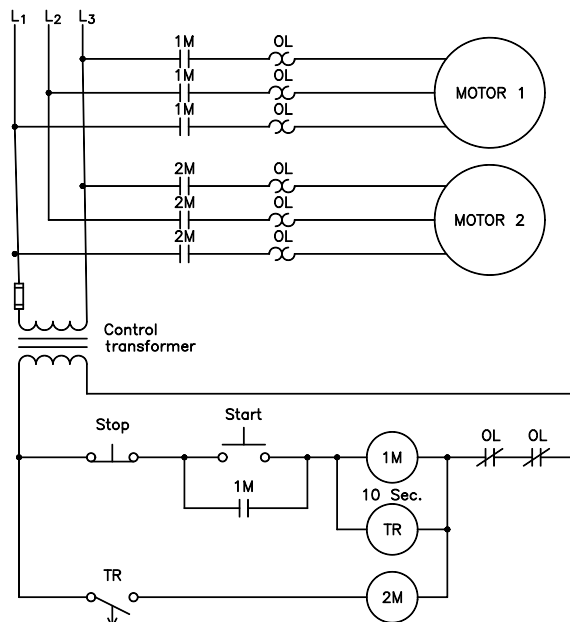
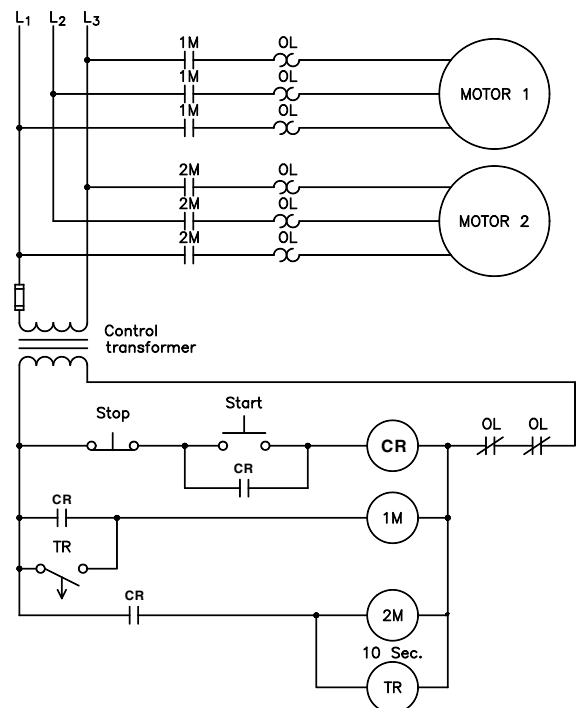
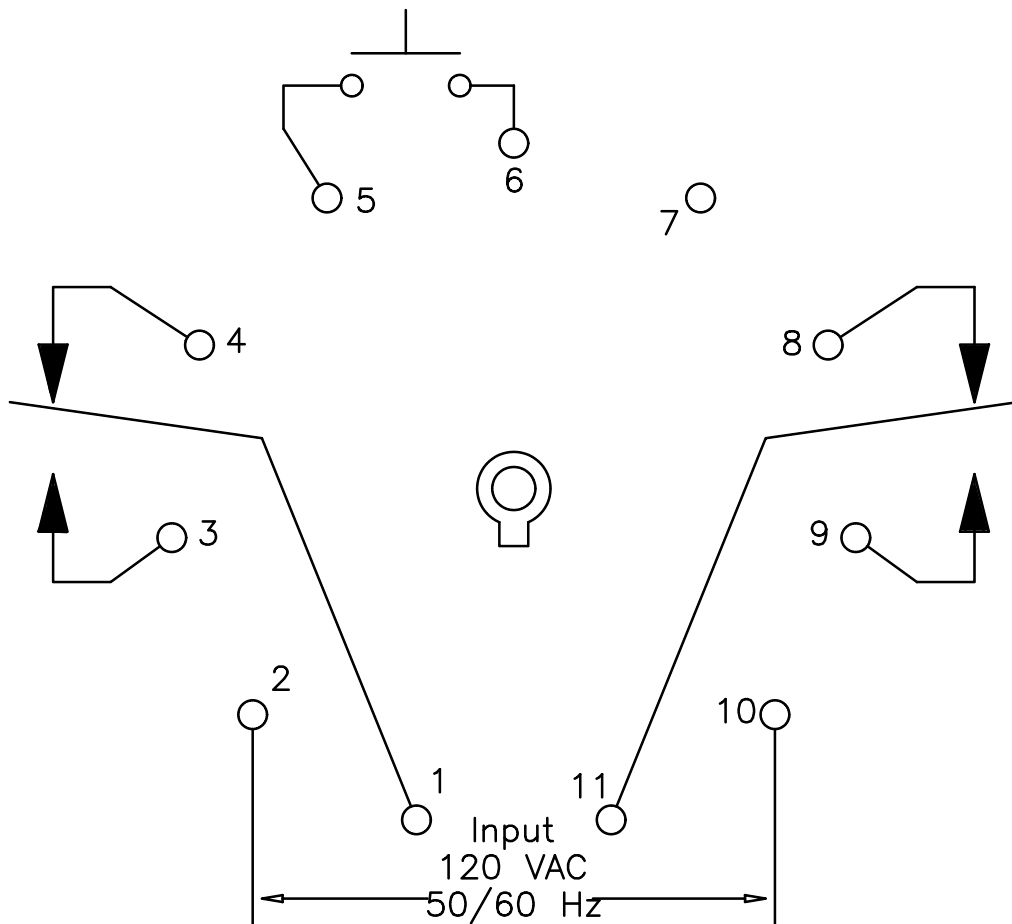
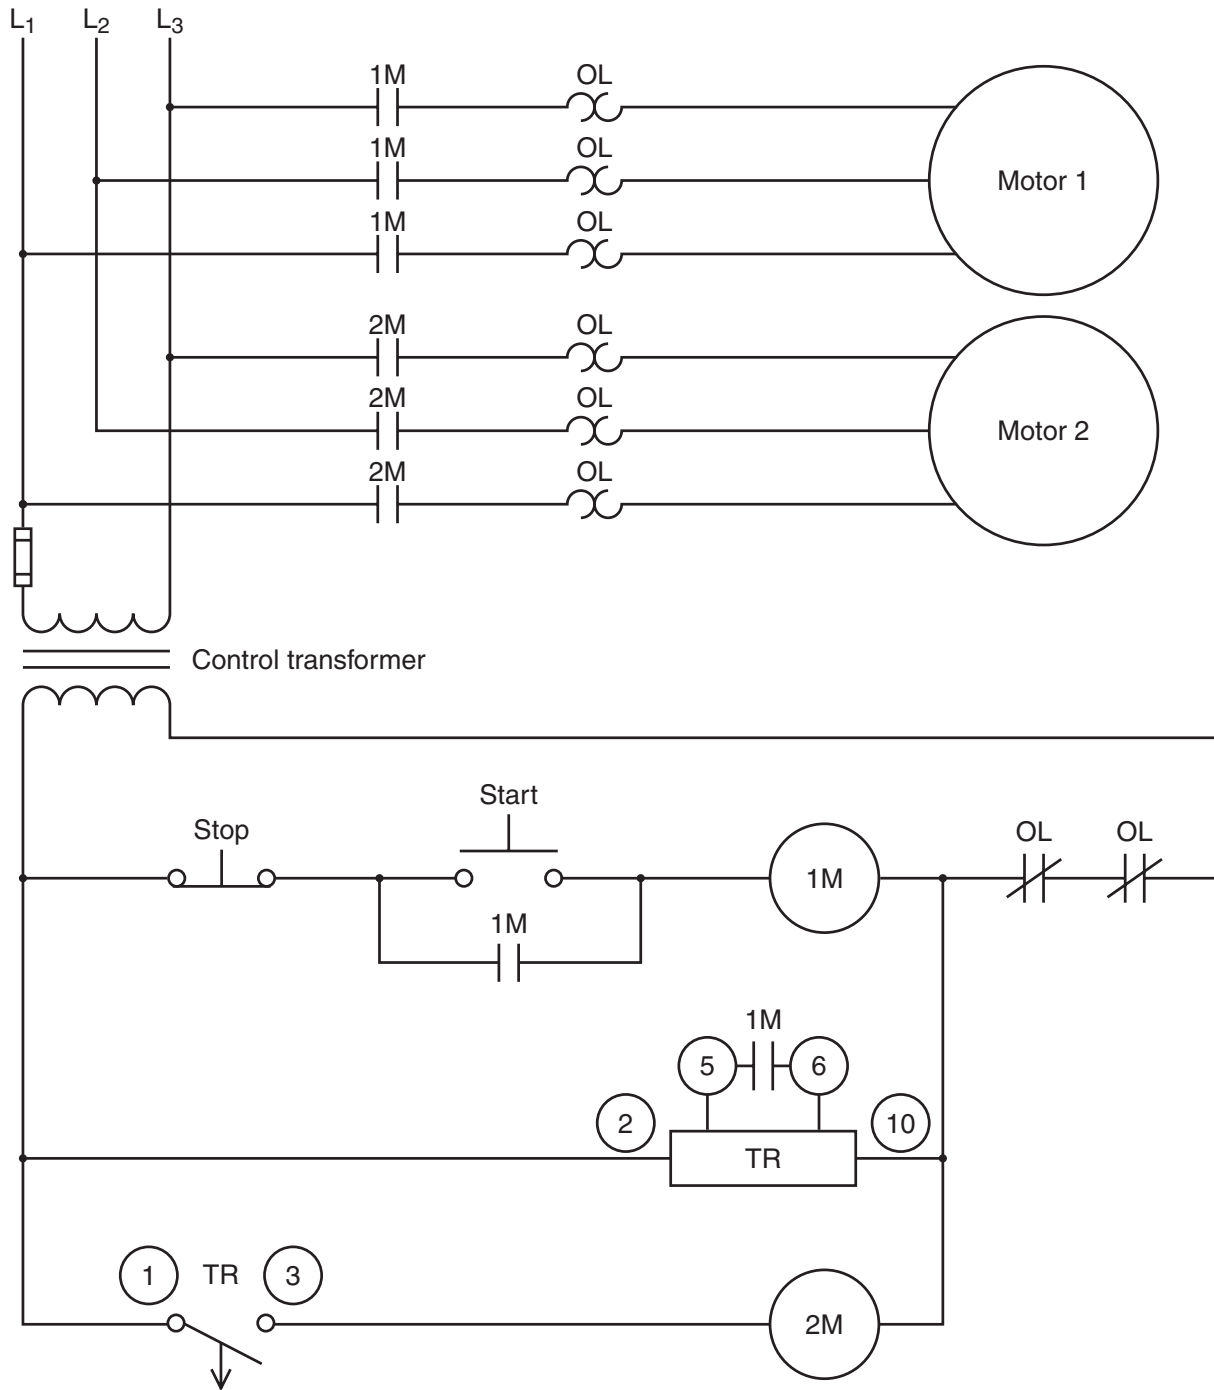

Figure 32-3 Off-delay motor circuit using pneumatic timer.
Figure 32-4 Motor 1 stops after motor 2.
Figure 32-5 Connection diagram for a Dayton model 6A855 timer.
Figure 32-6 Amending the first circuit for an electronic timer.
In the second example it is assumed that timer TR has been set for a delay of 10 seconds. Two motors start when the start button is pressed. When the stop button is pressed, motor #1 stops operating immediately, but motor #2 continues to run for 10 seconds (Figure 32-3). In this circuit the coil of the off-delay timer has been placed in parallel with motor starter 1M, permitting the action of the timer to be controlled by the first motor starter.
Now assume that the logic of the previous circuit is to be changed so that when the start button is pressed both motors still start at the same time, but when the stop button is pressed, motor #2 must stop operating immediately and motor #1 continues to run for 10 seconds. In this circuit the action of the timer must be controlled by the operation of starter 2M instead of starter 1M (Figure 32-4). In the circuit shown in Figure 32-4, a control relay is used to energize both motor starters at the same time. Notice that timer coil TR energizes at the same time as starter 2M, causing the normally open TR contacts to close around the CR contact connected in series with coil 1M.
In the circuits shown in Figure 32-3 and Figure 32-4, it was assumed that the off-delay timers were of the pneumatic type. It is common practice to develop circuit logic assuming that the timers are of the pneumatic type. The reason for this is that the action of a pneumatic timer is controlled by the coil being energized or de-energized. The action of the timer is dependent on air pressure, not an electric circuit. This, however, is generally not the case when using solid-state time delay relays. Solid-state timers that can be used as off-delay timers are generally designed to be plugged into an 11-pin tube socket. The pin connection for a Dayton model 6A855 timer is shown in Figure 32-5. Although this is by no means the only type of electronic timer available, it is typical of many.
Notice in Figure 32-5 that power is connected to pins 2 and 10. When this timer is used in the on-delay mode, there is no problem with the application of power because the time sequence starts when the timer is energized. When power is removed, the timer de-energizes and the contacts return to their normal state immediately.
to start the operation. The diagram in Figure 32-5 uses a start switch to illustrate this operation. When pins 5 and 6 are shorted together, it has the effect of energizing the coil of an off-delay timer and all contacts change position immediately. The timer will remain in this state as long as pins 5 and 6 are short circuited together. When the short circuit between pins 5 and 6 is removed, it has the effect of de-energizing the coil of a pneumatic off-delay timer and the timing sequence will start. At the end of the time period, the contacts will return to their normal position.
The circuit in Figure 32-3 has been amended in Figure 32-6 to accommodate the use of an electronic timer. Notice in this circuit that power is connected to pins 2 and 10 of the timer at all times. Since the action of the timer in the original circuit is that the coil of the timer operates at the same time as starter coil 1M, an auxiliary contact on starter 1M will be used to control the action of timer TR. When the start button is pressed, coil 1M energizes and all 1M contacts close. This connects motor #1 to the line, the 1M contact in parallel with the start button seals the circuit, and the normally open 1M contact connected to pins 5 and 6 of the timer closes and starts the operation of the timer. When timer pins 5 and 6 become shorted, the timed contact connected in series with 2M coil closes and energizes starter 2M.
3. Refer to the schematic diagram shown in Figure 32-6. Assume that starter coil 2M is open. Describe the action of the circuit when the start button is pressed and when the stop button is pressed.